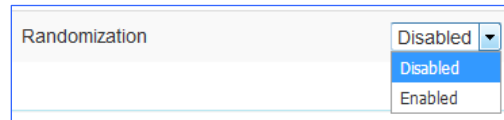

Figure 248: Data Generator, Randomization Drop Down Menu
- Randomization – Enable or disable IRIG 106 15-bit randomization, as shown in Figure 248; *not recommended for PN15 data*, due to potential conflict between the sequence generator and the randomizer, both of which are based on the same generator polynomial